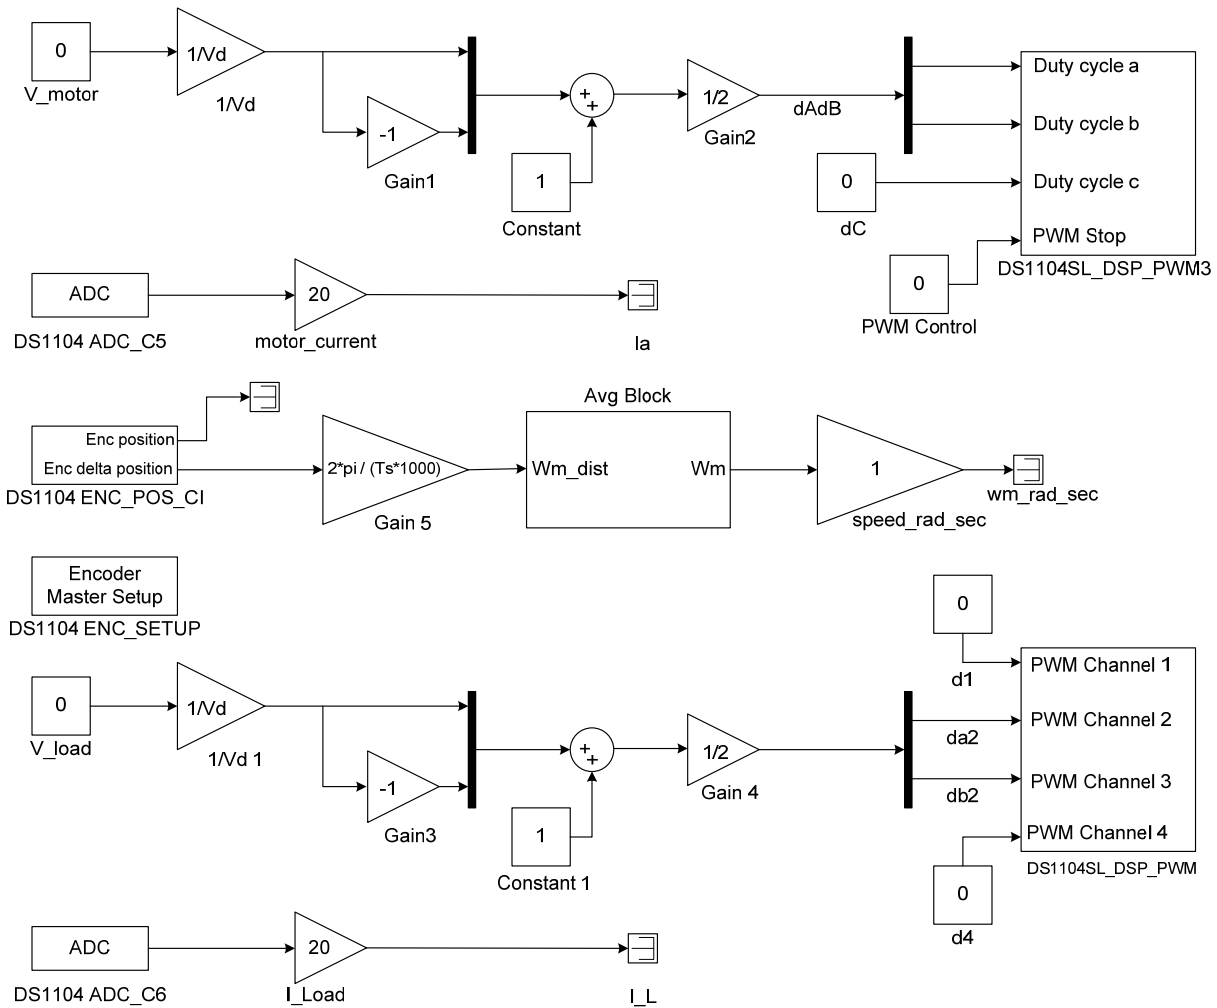

Figure 4.1: Real-time Simulink model for motor and load control
Add necessary blocks to make the model shown in Fig 4.1. All the required blocks can be copied from the file '**components.mdl**'. Or you can build it by following the instructions (a) to (f) below.
- f) Save the model. The model should like the one shown in Fig. 4.1.